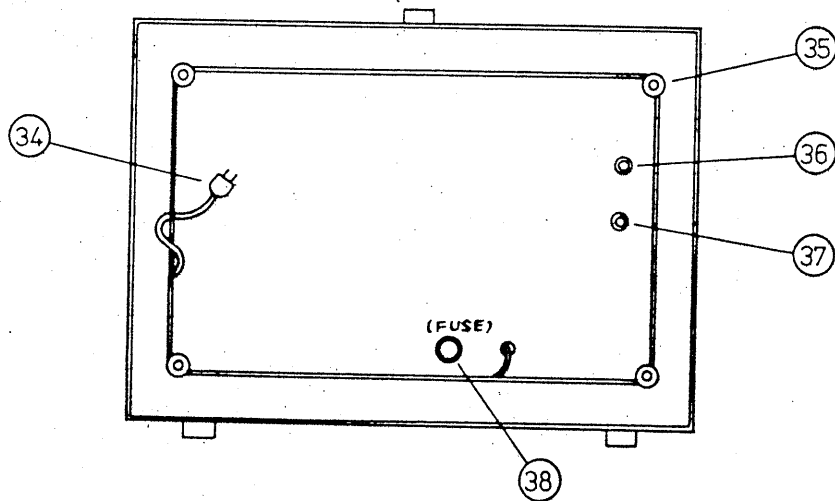

Fig. 2
3.2 Explanation of Rear Panel (See Fig. 2)
Disconnect the shorting bar of the external intensity modulation signal input terminal (Z-AXIS INPUT ③⑥, see Fig. 2), and apply an intensity modulation signal between Z-AXIS INPUT terminal ③⑥ and GND terminal ③⑦. When the intensity modulation is not used, keep the shorting bar connected.